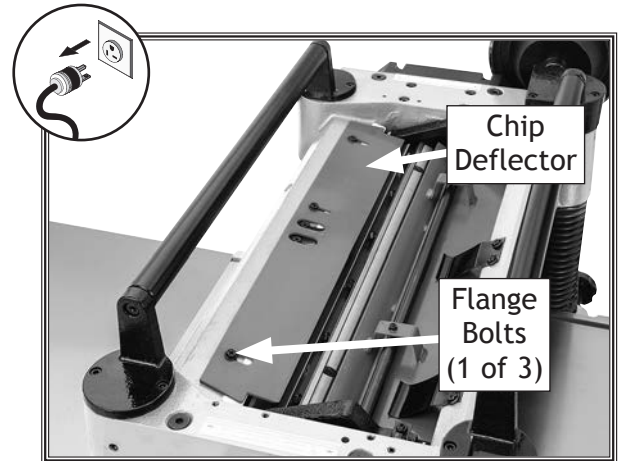

Figure 54. Example of chip deflector and mounting hardware.
4. If distance measured in **Step 3** is *not* equal to correct chip deflector gap setting, then loosen flange bolts (see **Figure 54**) that secure chip deflector and adjust gap to correct setting.